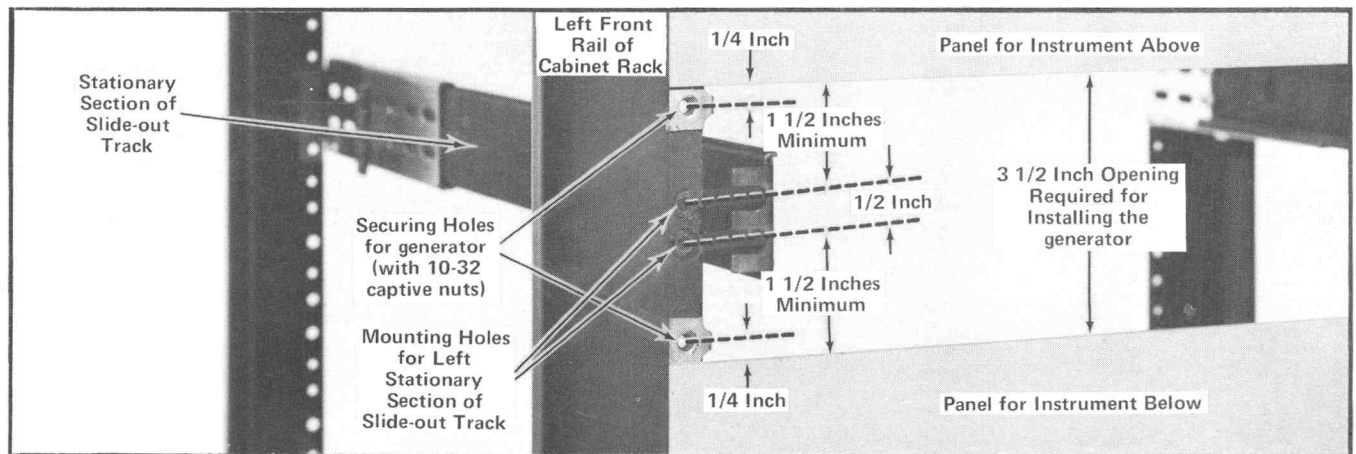

Fig. 5-5. Vertical mounting position of the left stationary section and location of the securing holes. These same dimensions apply to the right front rail.
**Mounting Procedure**—Use the following procedure to mount both sets. See Fig. 5-5 and 5-6 for installation details.
1. To mount the instrument directly above or below another instrument in the cabinet rack, select the appropriate holes in the front rack rails for the stationary sections using Fig. 5-5 as a guide.